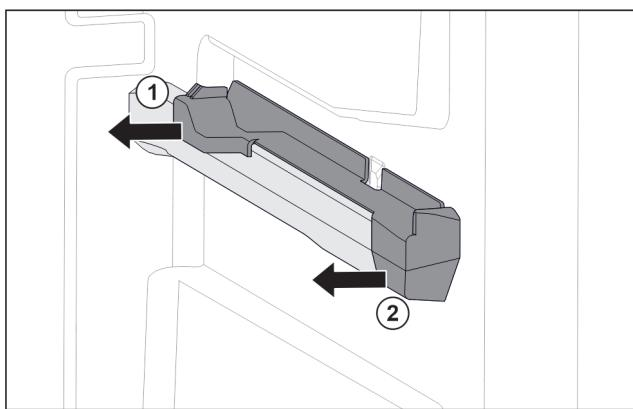

Fig. 83 Attachment on the right moulded rib
- ▶ Pull off attachment at the back sideways. Fig. 83 (1)
- ▶ Pull off attachment at the front sideways. Fig. 83 (2)